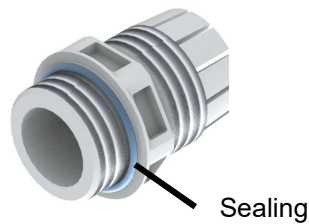

Figure 11 Position of the sealing
3. Check if the Sealing is placed correctly on the fitting according Figure 11